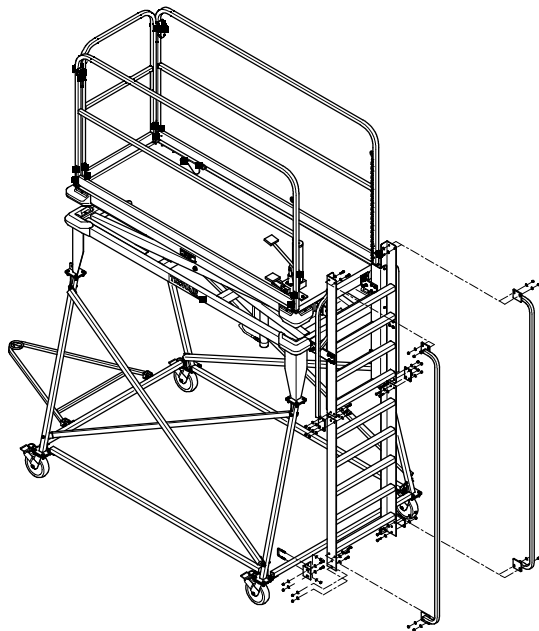

FIGURE 4
6. Install the ladder extension using the splice plates and $\frac{3}{8}$ -16 x 1½ inch long bolts. Assemble the extension handle using $\frac{3}{8}$ -16 x 1½ inch long bolts and secure the ladder to the extension brace using the U-bolt, angle and $\frac{3}{8}$ -16 x 1½-inch long bolts. (See **Figure 4**).